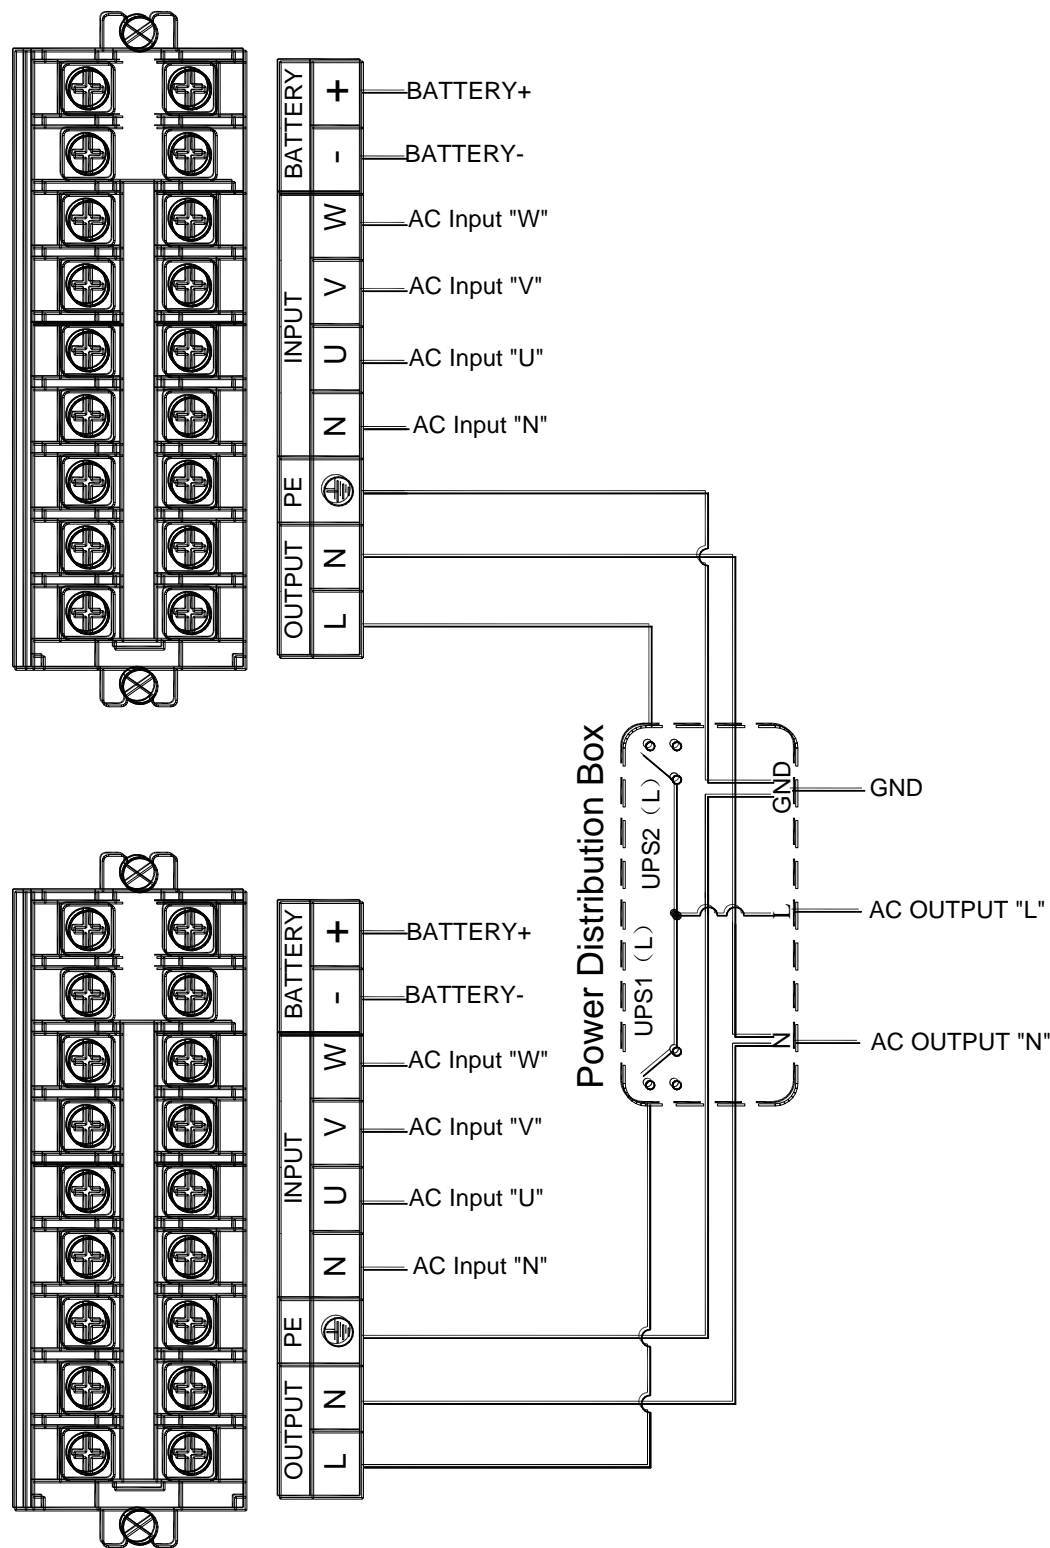

Fig 4.9-4 Parallel connection procedures for KR/B3110 (S)
4. Parallel Connection for KR/B 3110(S) is demonstrated as in below Fig.4.9-4.